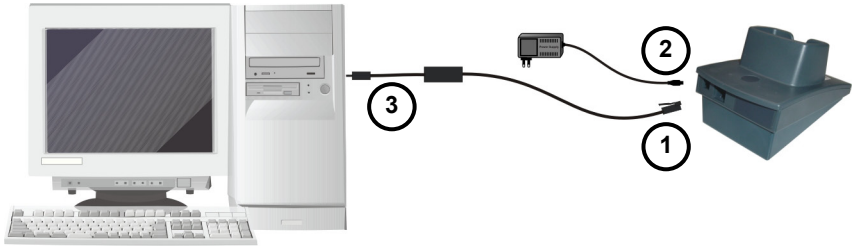

Figure 8 – USB Connection
2. Connect the USB cable to OM-1000 BT as shown in Figure 8, 1;
3. Connect power supply to OM-1000 BT as shown in Figure 8, 2;
5. Connect the USB cable to PC as shown in Figure 8, 3;